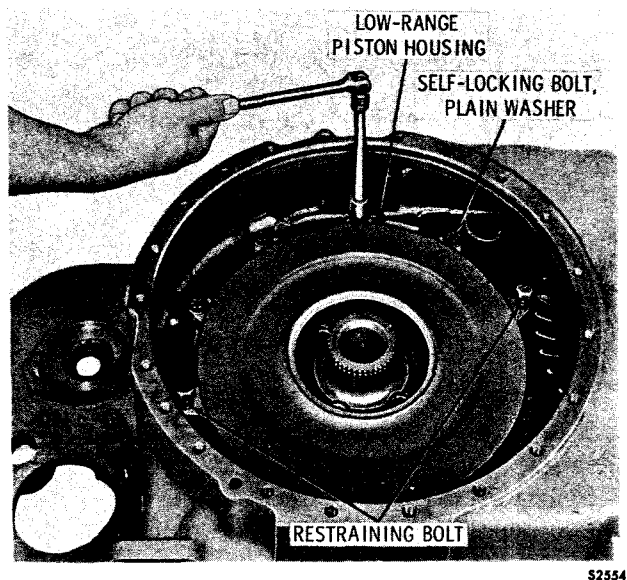

Fig. 5-25. Removing low-range clutch piston housing bolts
(1) Replace two of the ten self-locking bolts that retain the low-range clutch piston housing with two 3/8-16 x 2 1/2-inch bolts removed from the control valve assembly in 5-3e, above (fig. 5-25). Install the bolts at opposite sides of the piston housing to restrain the spring pressure.
(2) Remove the remaining eight self-locking bolts and plain washers which retain the low-range clutch piston housing (fig. 5-25). Then, loosen the two restraining bolts evenly and remove them.